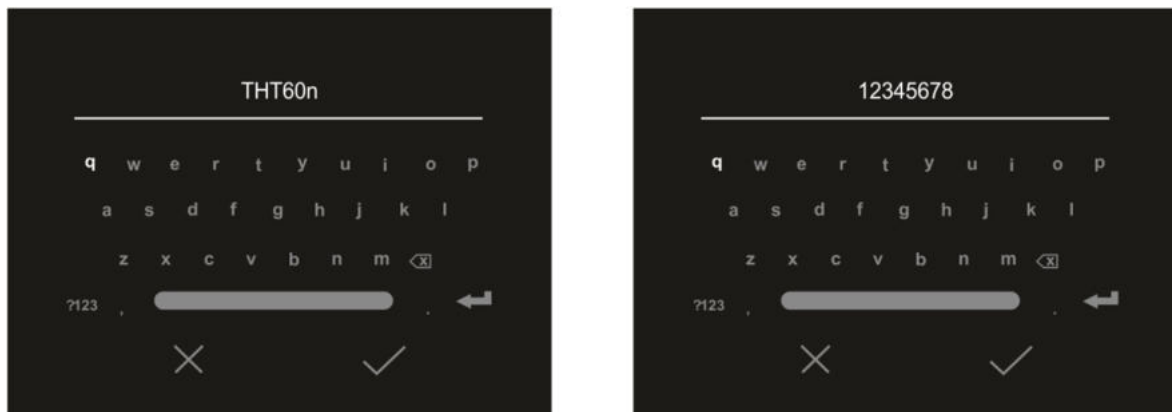

Fig. 17: Definition of SSID and Password of the WiFi connection
3. Touch item “SSID” to define a custom identification ID of the WiFi connection (default THT60n). The screen in Fig. 17 – left side appears on the display.
5. Touch item “Password” to define a custom Password for the WiFi connection (default “12345678”). The screen in Fig. 17 – right side appears on the display.